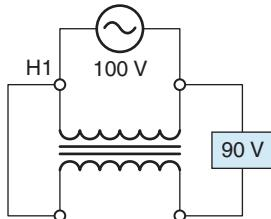

Figure 3-39 Circuit for review question 2.
- A polarity test is being made on the transformer shown in Figure 3-39.